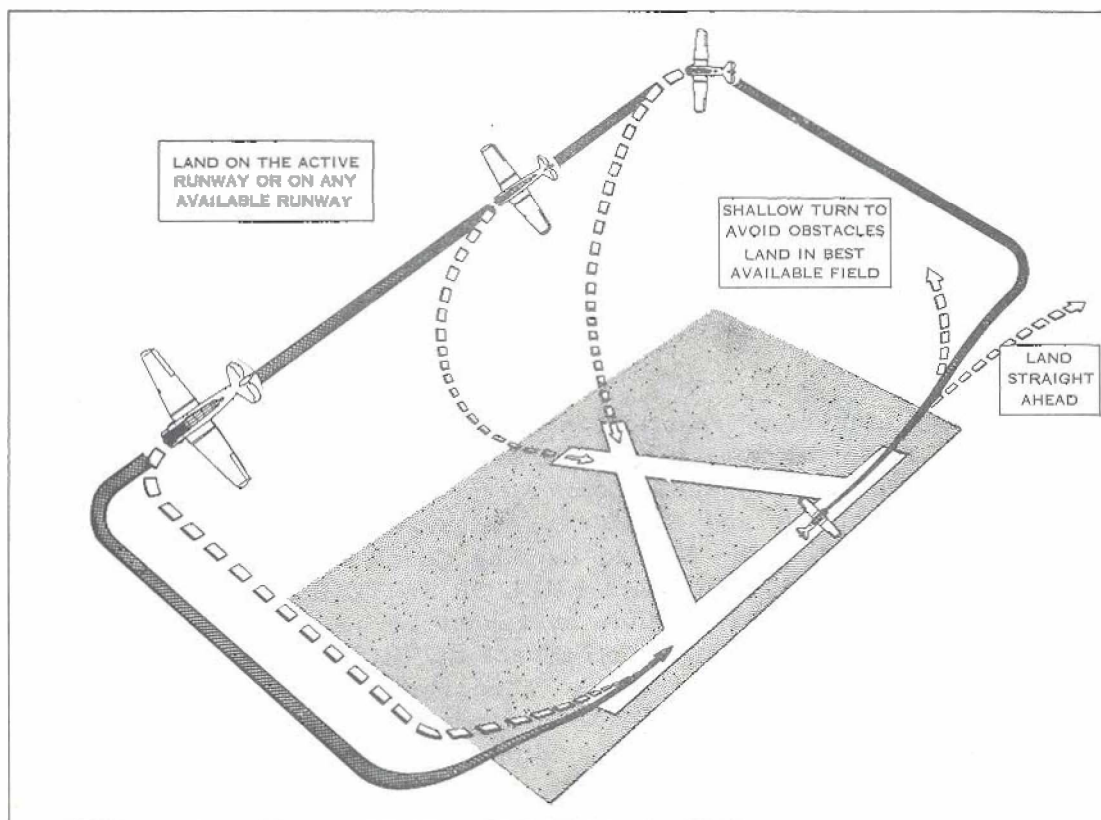

Figure 3: Engine Failure in the Circuit
(6) **ENGINE FAILURE IN THE CIRCUIT** - When flying a normal circuit, it is highly probable that a forced landing can be completed successfully on the runway in use, or on one of the other runways. (Figure 3 overleaf.) Immediately the engine fails, you should:
(1) Periodically, your instructor will simulate engine failure by closing the throttle and saying "Forced Landing!" over the interphone. These practice engine failures help to prepare you to act promptly and efficiently in any emergency, and are planned to develop accuracy, judgement, planning technique and confidence in your approach to forced landing problems.
(2) To set the aircraft up to give conditions as close as possible to those of a real engine failure, your instructor, after giving you the preliminary warning, will push the pitch lever forward to "FINE", drop 30 degrees of flap and open the throttle to 10" MP. (If the weather is cold, the throttle will have to be set at 12" MP to keep the cylinder head temperature above 100°C.) As the aircraft descends, the MP will increase, but your instructor will make the necessary adjustments to bring it back to the proper setting. The rate of descent with these settings is similar to the rate of descent with engine failure.
(3) Your immediate reaction to the "Forced Landing" announcement should be to raise the nose to convert excess speed into height, and then adopt a gliding attitude at 90K. Complete the FMS check, and at the same time contact the tower and ask for permission to do a Practice Forced Landing (PFL). During the Forced Landing Check you MUST NOT, UNDER ANY CIRCUMSTANCES, TURN THE FUEL OR SWITCHES "OFF"; you should prepare the aircraft for a possible overshoot by switching the fuel to the fullest tank, pulling the mixture control back to "RICH" and checking to make sure that the pitch lever is at "FINE". This change in procedures should not cause confusion during an actual forced landing if you concentrate on what you are doing and above all - THINK! Simply assess the situation and do the checks to meet it.
(4) The final approach on the simulated forced landing is slightly different, owing to the power and flap settings being used to give the relatively